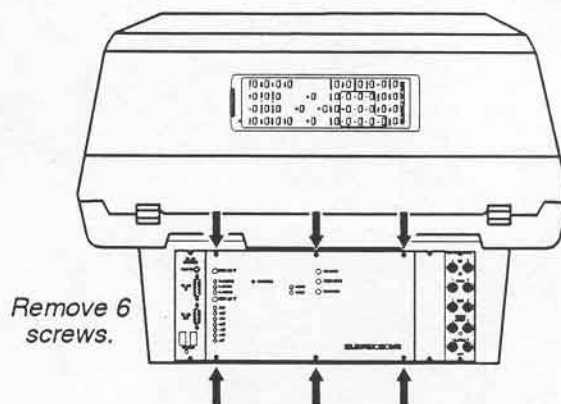

Figure 5-10. Rear Panel Removal
- Remove the 6 rear panel securing screws as shown in Figure 5-10 then set the rear panel aside.